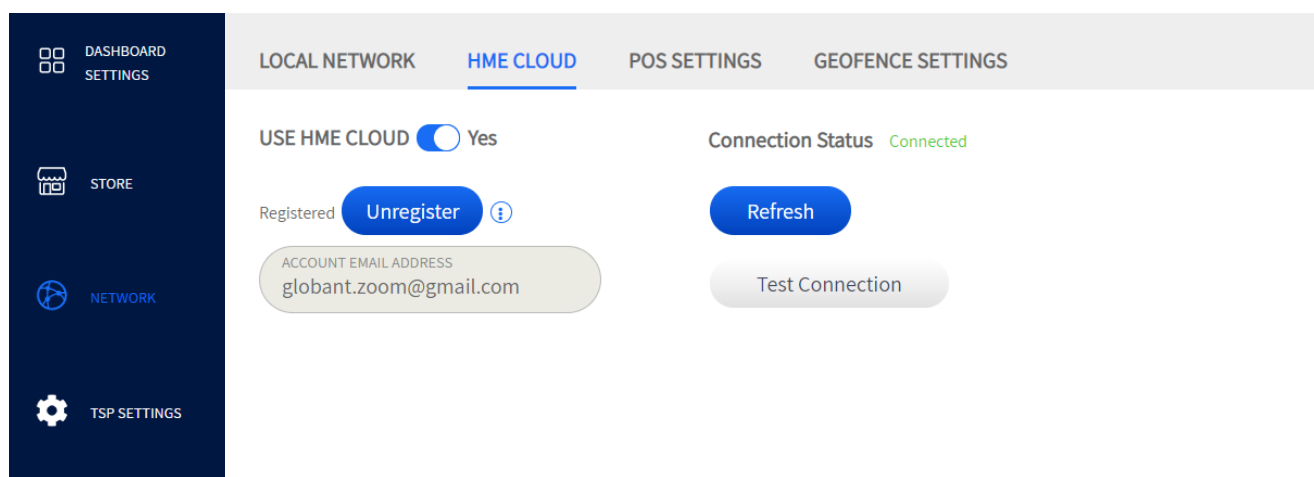

Fig. 5.2
**Example:** Fig 5.2 shows you have selected “YES” for the USE HME CLOUD feature. The CONNECTION STATUS shows that you are connected to the cloud. The ACCOUNT EMAIL ADDRESS is populated when you are registered. To change this email address, you must first unregister using the Unregister button. An email address only needs to be entered if you have an account set up. If not, leave blank, click “**Save**,” and then the “**Refresh**” button to connect.